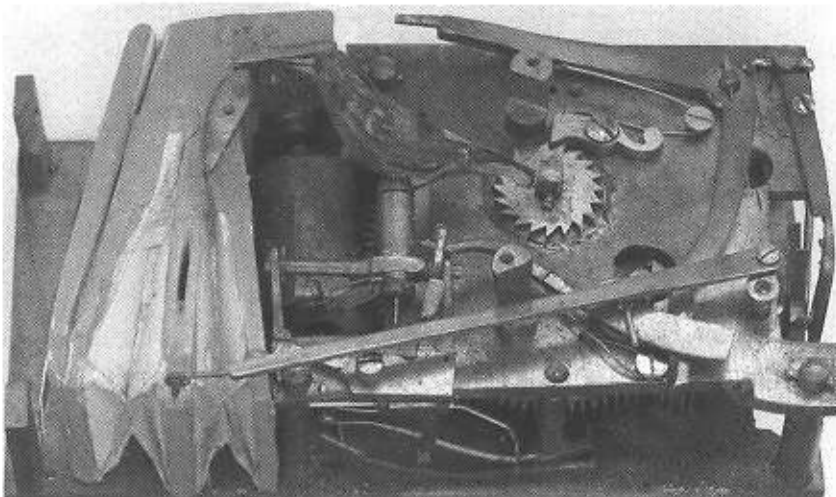
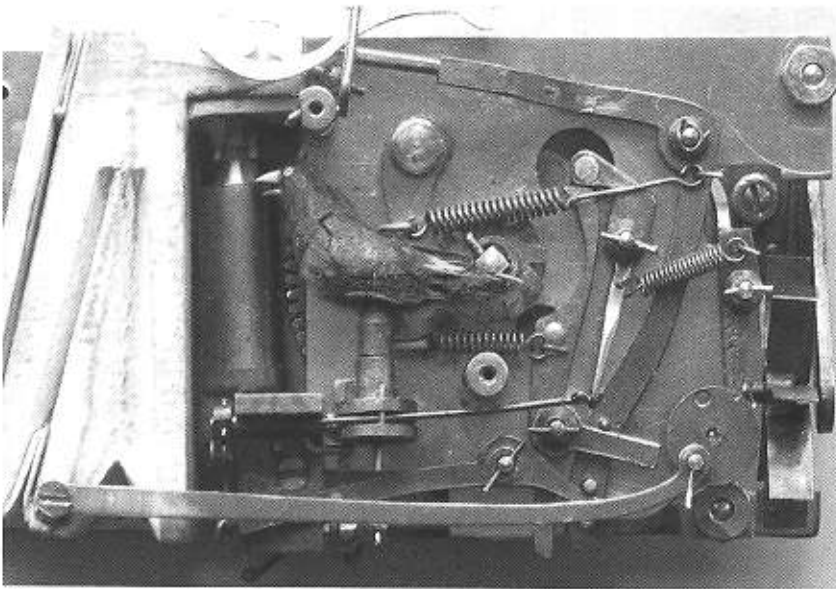

Fig 2. Early Bontems movement of Type 1.
Fig 4. A 20th Century Griesbaum movement.
Figure 2 shows the movement which I believe is an early design, and I will designate this as Bontems Type 1. For comparison Figures 3 a) and 3b) show diagrams of the general layout of the Bontems movement suggested as being the standardised design by Mayson. I have designated this as Bontems Type 4. For comparison a 20th century Griesbaum type movement is shown in figure 4.
5. The drive for the bellows is from a simple crank lever (Figure 2) rather than the circular cam in Type 4. (Figure 3 a)) This provides less support for the lever and does not allow easy scope for altering the extent of the throw of the cam to alter the rate of supply of air if excessive or inadequate.